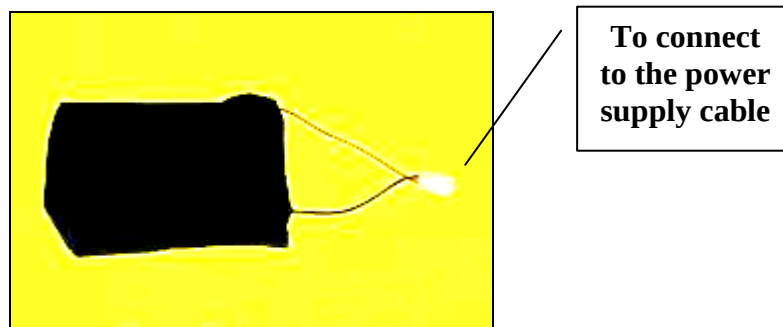

Fig. 3.8 – Lead Battery
- Two wheeled trolley used to move the system (2).
- Power cable (3).
- Inverted network cable (4).
- Antenna Box - Control Unit connection cable (5).
- Position sensor connection cable (6).
- Position sensor (7).
- Detector Duo Antenna (8).
- 12V lead battery (see Fig. 3.8) (9) .
- Notebook computer (10) (see specifications in paragraph 5.1).
- A lead 12V, 12Ah battery (see Fig. 3.8).